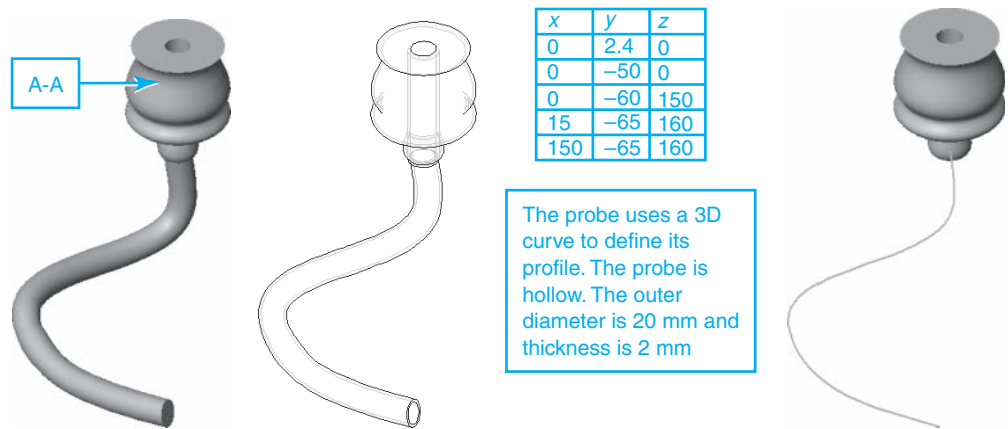

Figure 4.21
- 13** Create the CAD model of the 3D probe shown in Figure 4.21. All dimensions are in millimeters.